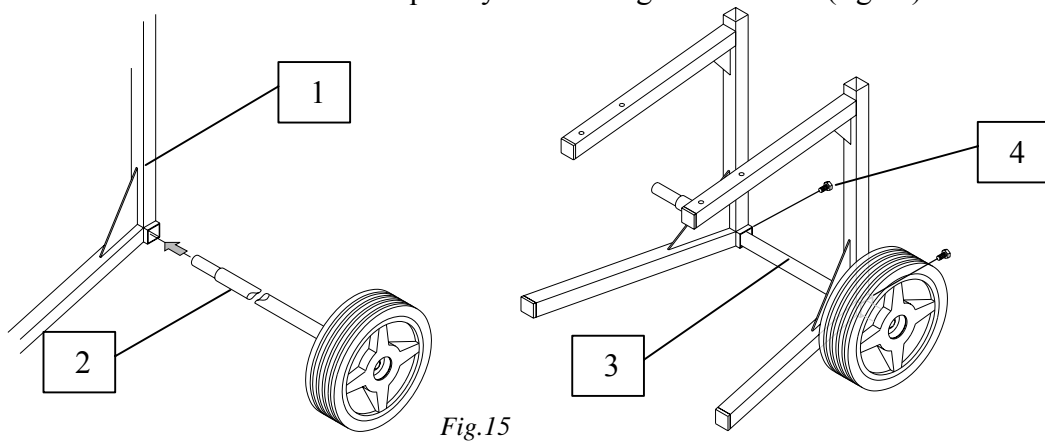

Fig.15
- 4 Insert the axle 2 into the lower tube 1. Place the axle so that it is centred in comparison with the frame 3 and subsequently block using the screws 4 (fig.15).